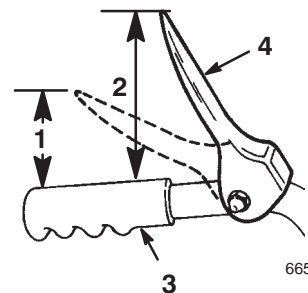

Figure 8
3. Check the distance between the top of the handgrip and the bottom of the auger/impeller drive control lever (Fig. 8). The distance should be approximately four inches (ten centimeters).
distance between the top of the handgrip and the bottom of the auger/impeller drive control lever is one to two inches (2.5 to 5.0 centimeters) as shown in Figure 8.